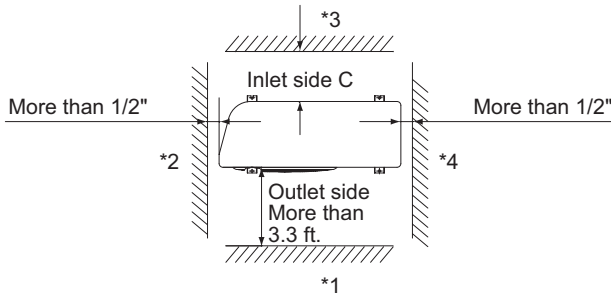

Fig. 1-6
- allow enough room around the unit for air intake/exhaust and possible maintenance. (Fig. 1-6)
- Concerning inlet-side distance “C” (Fig. 1-6)
- If wall *1 is on the outlet side (Fig. 1-6), or if obstructions are present on all 3 sides *2, *3, and *4 (Fig. 1-6), then the minimum distance for “A” and “B” is 80”. Even if there is no wall on the outlet side, a minimum of 3.3 ft. is required.